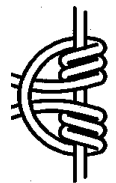

fig. 4a
- Step 2 Continue to add another turn around the climbing line as shown in fig. 4a.
(When using the P/N P7J / P9J Series Prusik Loop with a Climbing Line, it is imperative that the Prusik Knot have 6 coils as depicted in fig. 4a and 5a)
- ◆ When using the P/N P7J / P9J Series Prusik Loop with a Climbing Line, it is imperative that the Prusik Knot have 6 coils as depicted in fig. 4a and 5a of the Instructions.
- ◆ As outlined by OSHA 1926.502 (e)(2) positioning devices shall be secured to an anchorage capable of supporting at least twice the potential impact load of an employee's fall or 3,000 lbf. (13.3 kN), whichever is greater versus fall arrest anchor points which must support a minimum of 5,000 lbf. (22.2 kN) per attached worker and be Independent of worker support.